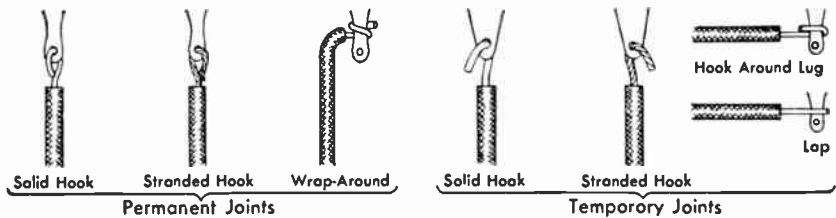

Fig. 5. Types of joints used for connecting a wire to a soldering lug
**Joints for Soldering Lugs.** The four distinct types of joints used in connecting a wire to a soldering lug are the temporary hook joint, permanent hook joint, wrap-around joint, and lap joint, all shown in Fig. 5.
**Temporary Joints.** A temporary hook joint is used between a wire and a soldering lug when it may be necessary to remove the wire later, as in making test connections. The procedure is exactly the same as for making a permanent hook joint, except that the hook is not squeezed with pliers before soldering. The hook should be bent together just enough so the wire will not fall out of the hole in the lug, as shown in Fig. 5. Enough solder should be used to get a solid bond between the lug and the hooked wire, but the entire open hook need not be filled with solder.